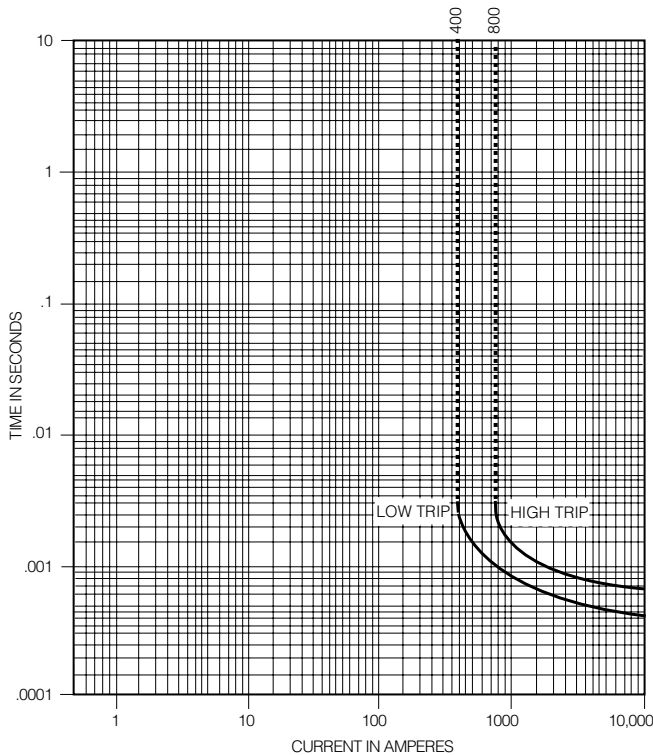

Figure 3. TPR faulted circuit indicator response curve* developed on a 25 kV Class Eaton's Cooper Power series elbow.
The quick response time of the S.T.A.R. test point reset faulted circuit indicator allows easy coordination with current-limiting fuses (see Figure 3). This unique combination of standard features makes the S.T.A.R. faulted circuit indicator extremely reliable.
*Per Figure 3, for a 25 kV Class Eaton's Cooper Power series elbow the low trip rating is 400 A and the high trip rating is 800 A. The curves will shift slightly with different kV class elbows and different elbow manufacturers.